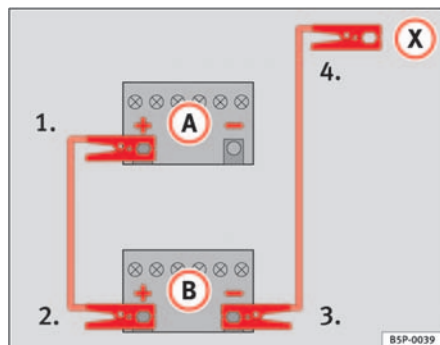

Fig. 194 How to connect the jump leads
In ⇒ fig. 194, the flat battery is **A** and the charged battery **B**.
- 1. Connect one end of the red jump lead to the positive ⇒ fig. 194 (+) terminal of the vehicle with the flat battery ⇒ ⚠.
- 4. Connect the other end of the black jump lead (X) to a solid metal component which is bolted on to the engine block, or onto the engine block itself of the vehicle with the flat battery. Do not connect it to a point near the battery ⇒ ⚠.